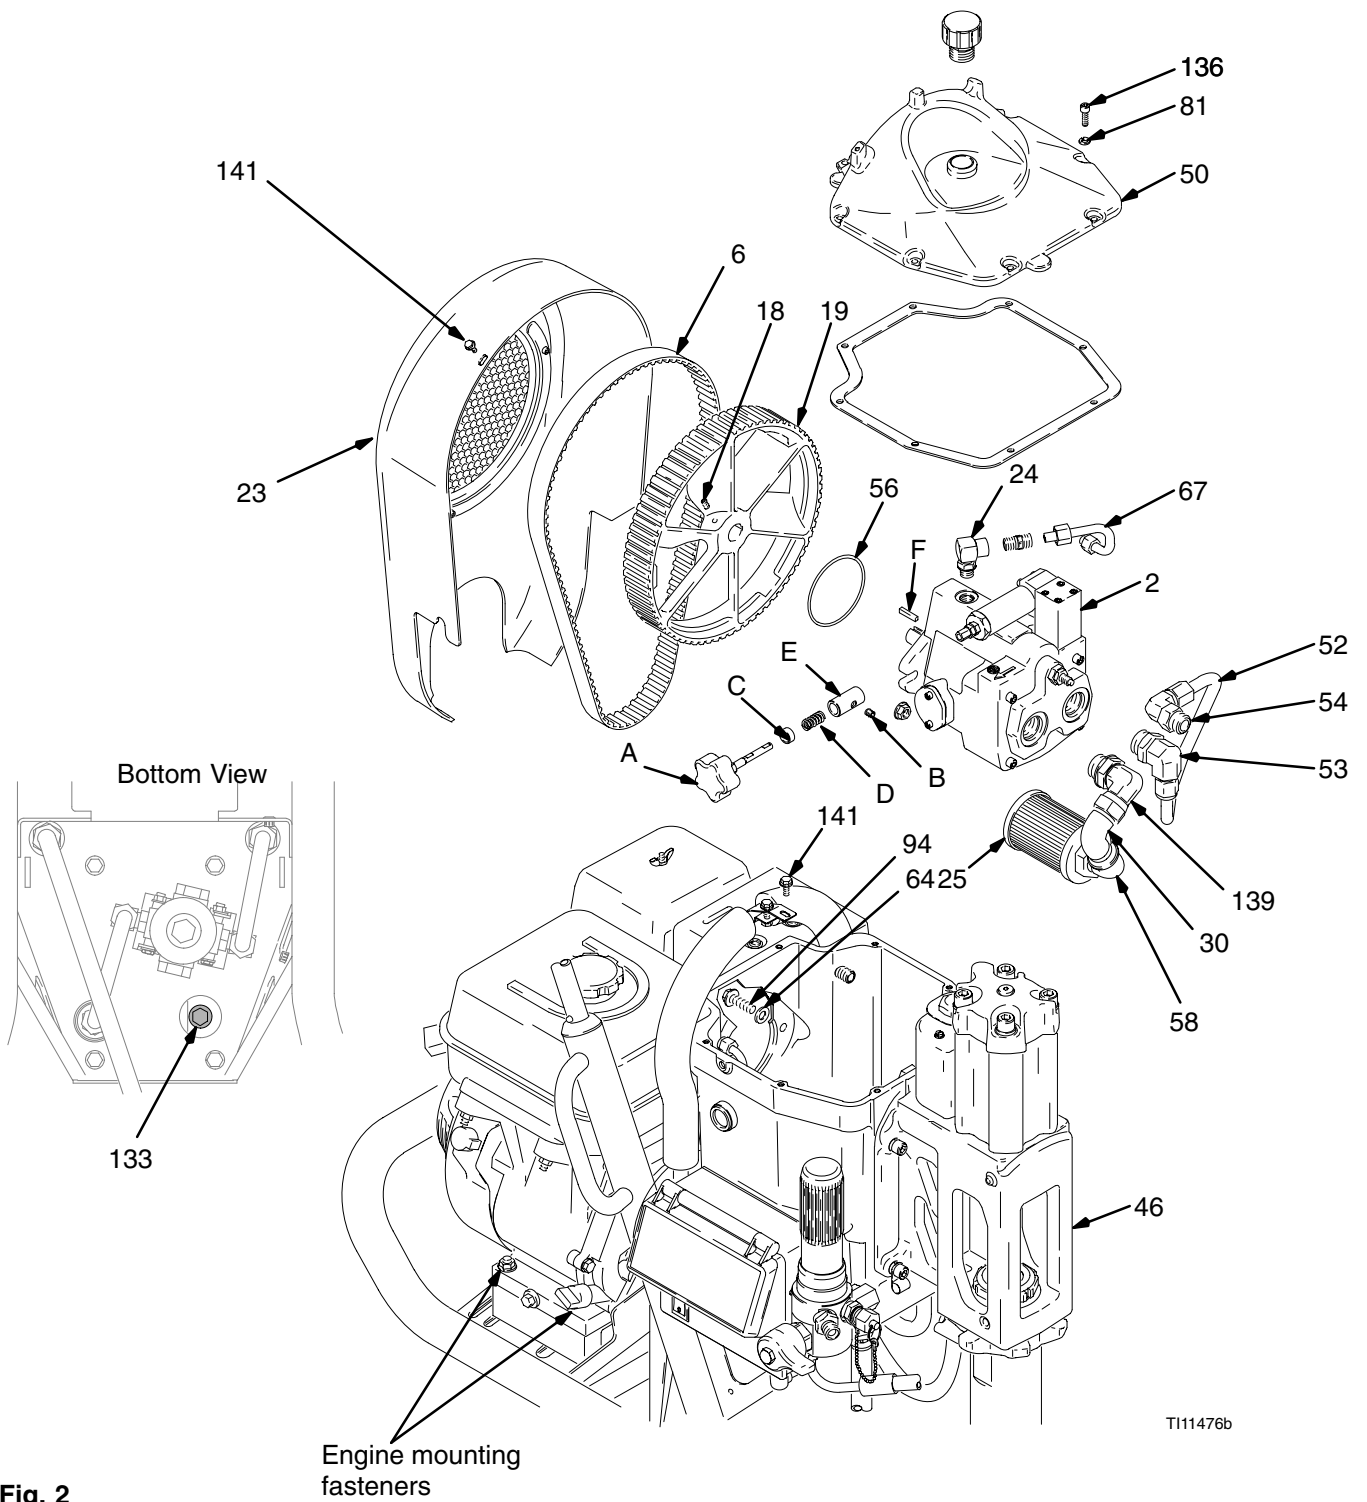
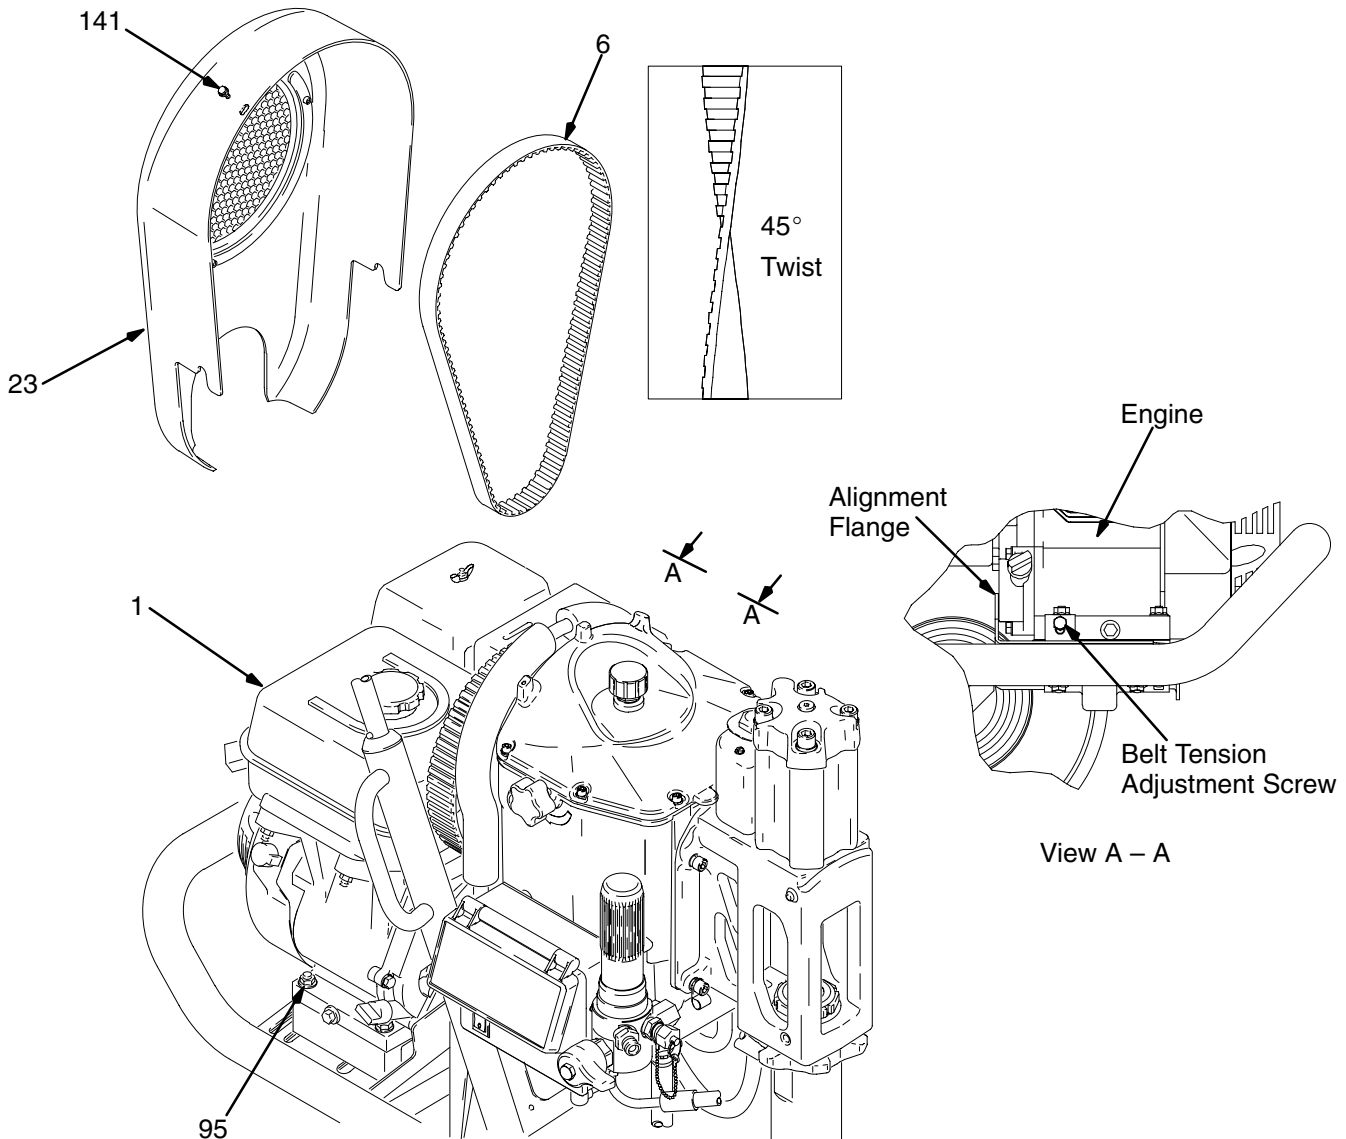

Fig. 2
Fig. 3
2. Fig 2. Use 3.5 gallon container to catch hydraulic fluid. Remove reservoir drain plug (133) and drain hydraulic fluid.
3. Remove two screws (141) and fan shroud (23).
4. Remove eight screws (136), washers (81) and reservoir cover (50).
5. Remove cooler clip screw (141).
6. Loosen four engine mounting fasteners and belt tension adjustment screw (Fig. 3). Slide engine to left (rear view) to relieve tension on belt (6). Remove belt.
7. Remove two set screws (18) and fan (19).
8. Disconnect hydraulic tube (52) from elbow (54) and hydraulic motor manifold (46).
9. Disconnect strainer (25) with elbows (58, 30) assembled, from elbow (139).
10. Remove case drain tube (67).
11. Turn compensator stem (A) clockwise until stop. Loosen set screw (B). Pull compensator stem out. Remove holder (C), spring (D) and coupler (E).
12. Remove two pump bolts (94) from reservoir.
13. Lift hydraulic pump (2) up and toward front of reservoir to remove.
4. Fig 2. Set hydraulic pump (2) down and toward rear of reservoir to install.
5. Install two pump bolts (94) in reservoir with copper washers (64) on outside under screw heads. Torque to 31–35 ft-lb.
6. Connect strainer (25) to elbow (139).
7. Connect elbow (54) to hydraulic motor manifold (46). Connect hydraulic tube (52) to elbow (54). Torque hex nuts on elbows (139) and (53) to 38 – 42 ft-lb.
8. Insert spring (D) into coupler (E) and put holder (C) on exposed end of spring. Slide assembly (D, E, C) over compensator stem (A). Align flat on compensator stem with set screw (B). Hold compensator stem knob and torque set screw to 90 in-lb.
9. Install key (F) on pump shaft and install fan (19) with two set screws (18). Fan hub must overhang shaft approximately 0.20 in.
10. Install belt (6). Do **Fan Belt Installation**, page 8.
11. Install reservoir drain plug (133).
- b. Install case drain elbow (24) and tube (67).
1. Fig. 3. Remove two screws (141) and slide shroud (23) up and off of sprayer.
2. Loosen four fasteners on underside of engine (1).
5. Remove belt (6).